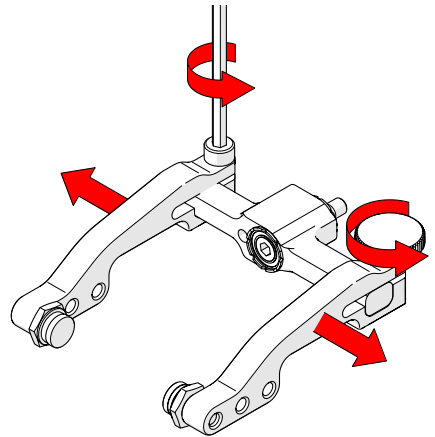

Fig. 93 - Remove arms
2. Loosen the probe holder arm adjustment knob and arm clamp screw. Slide the arms from the yoke (Fig. 93).